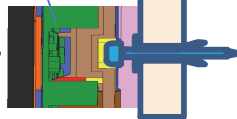

Figure 6. Thermostat Installation to Wall
2. Select a location for the sensor about five (5) feet (1.5m) above the floor in an area with good air circulation at average temperature.
4. Use steps A through D (see figure 6 for using provided optional wall plate).